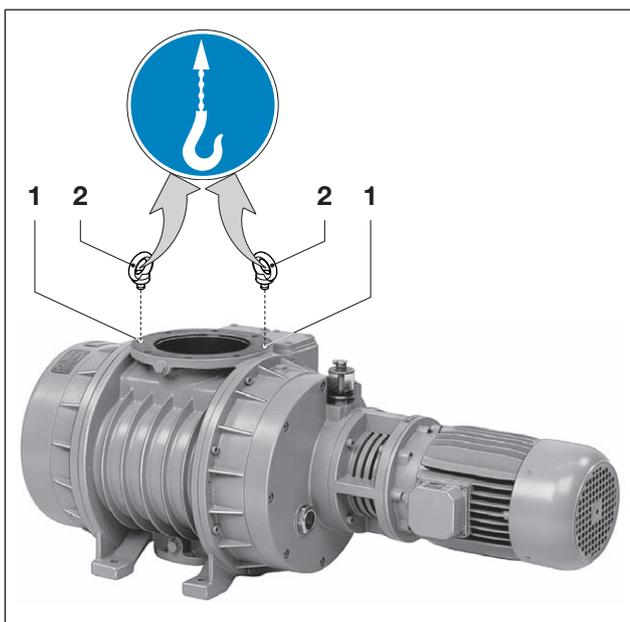

Fig. 1 Lifting and transporting
- a) Screw two eyebolts into the threaded holes (Fig. 1/1):
- b) Tighten the eyebolts (Fig. 1/2) firmly.